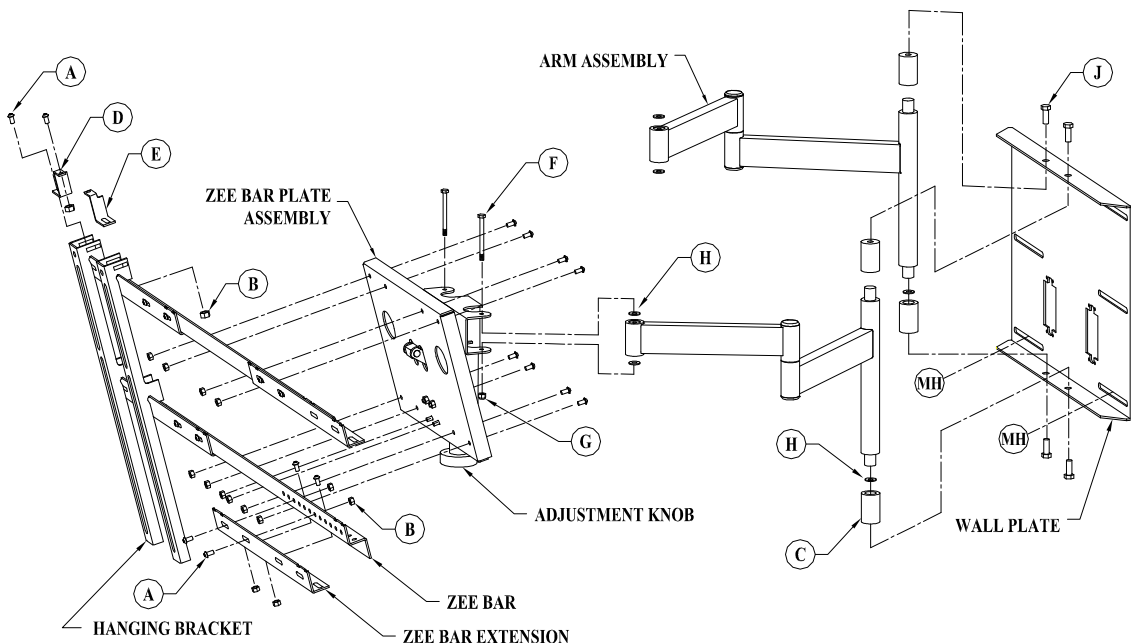

Figure 1
2. Mount the Wall Plate to the wall. See Figure 1.
4. Tilt the unit by using the Adjustment Knob. See Figure 1.